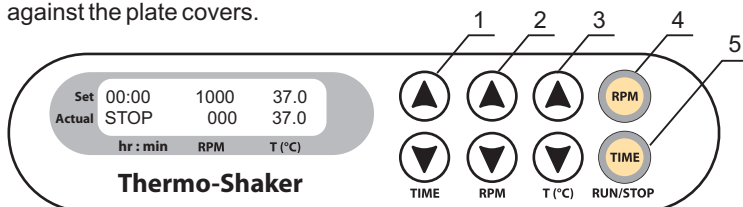

Fig.1 Control panel
- 4.3.1. **Setting time (TIME).** Using the ▲ and ▼ keys (Fig. 1/1) set the required working time interval in hours and minutes (increment 1 min). Pressing the key for more than 3 s will increase the increment.
- 4.3.2. **Setting speed (RPM).** Using the ▲ and ▼ keys (Fig. 1/2) set the required shaking speed (increment 10 RPM). Pressing the key for more than 3 s will increase the increment.
- 4.3.3. **Setting temperature (T,°C).** Using the ▲ and ▼ keys (Fig. 1/3) set the necessary temperature (increment 0.1°C). Pressing the key for more than 3 s will increase the increment.
- 4.4.2. Press the **RPM-RUN/STOP** key (Fig. 1/4). The platform will start rotating and the timer indicator will start counting up the time interval (with 1 min precision).
At the end of the set time period the platform movement is stopped automatically, but the heating has to be stopped by reducing the temperature using the ▼ T(°C) key (Fig. 1/3 lower key) till the OFF sign appears in the upper part of the display.
- 4.6. The timer can be reset during operation if required. Press the **TIME-RUN/STOP** key once (Fig. 1/5) to stop the timer. Press the **TIME-RUN/STOP** key again to restart the timer.